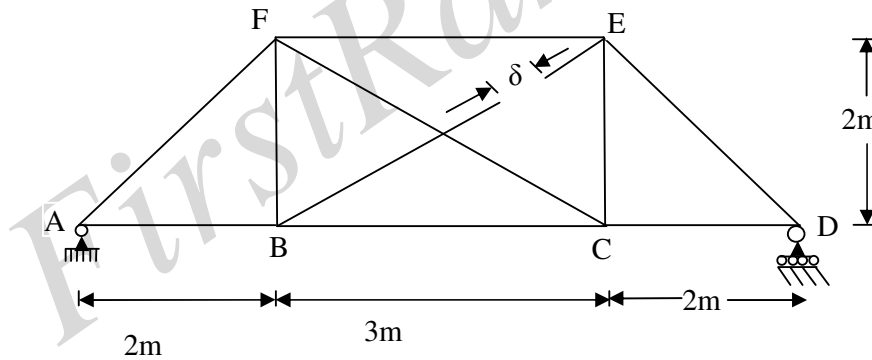

Figure 6
8. Determine the forces in members of the truss with one double braced panel shown in figure 6. Members BE is short by 35mm. all members have the same cross-section and the same E value